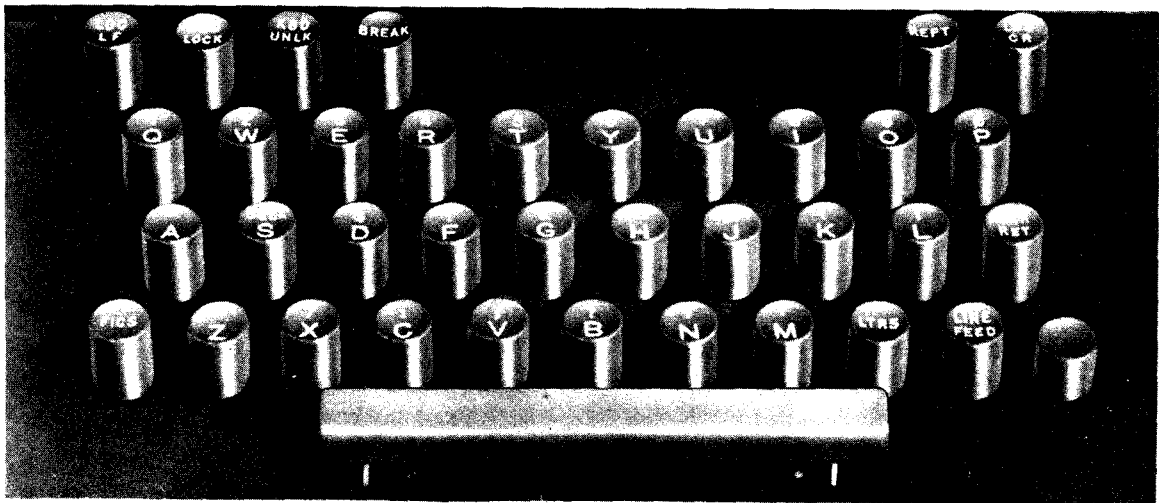

Figure 4-1. Keyboard Keys
a. Teletypewriters TT-47A/UG, TT-48A/UG, TT-69A/UG, or TT-70A/UG provide means for exchanging typewritten page message between two or more ships or stations which are similarly equipped and connected by a telegraph or radio channel. The Keyboard of the Teletypewriter is essentially similar to the keyboard of a conventional typewriter. However, the following differences should be noted: The Keyboard of the Teletypewriter has only three rows of conventional keys. The platen is held stationary while the type box carriage, and printing carriage, advance from left to right during the typing process. Nontyping functions such as the return of the carriage for starting a new line, the shifting operations, and line feeding are performed automatically as a result of signals that originate either at a distant station or at the local Keyboard. The Teletypewriter is arranged for operation on five-unit start-stop permutation code and prints the alphabet in capitals only. It is designed to operate at speeds of 368, 460 or 600 operations per minute (opm). Conversion from one speed to another necessitates a change in the driving gears. The Keyboard must be operated with a uniform rhythm in order to prevent omission errors in the copy due to speed in excess of that for which the machine is adjusted. The action performed by the function keys (figure 4-1) is detailed in paragraphs 2 and 3 below.